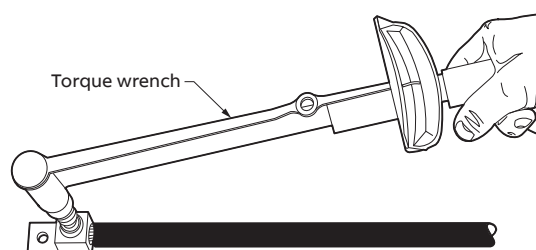

Figure 4
4. Torque the setscrew according to the value listed shown in Table 1, on page 2 (see Figure 4).